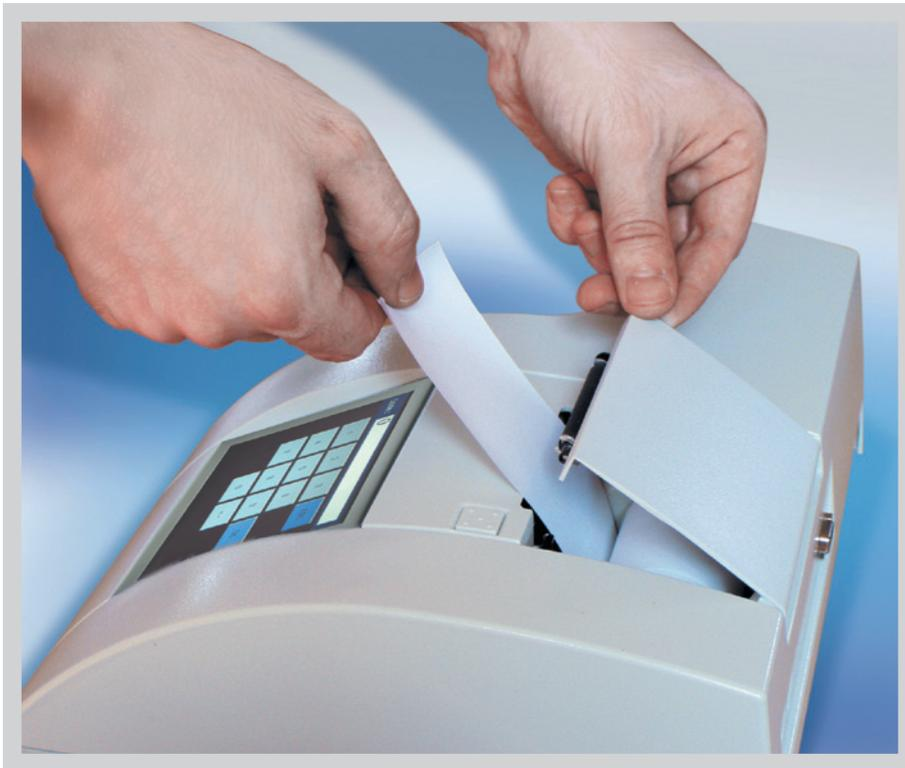

Figure 3
- o Close the cover while holding the paper tight with one hand. (Fig. 3)